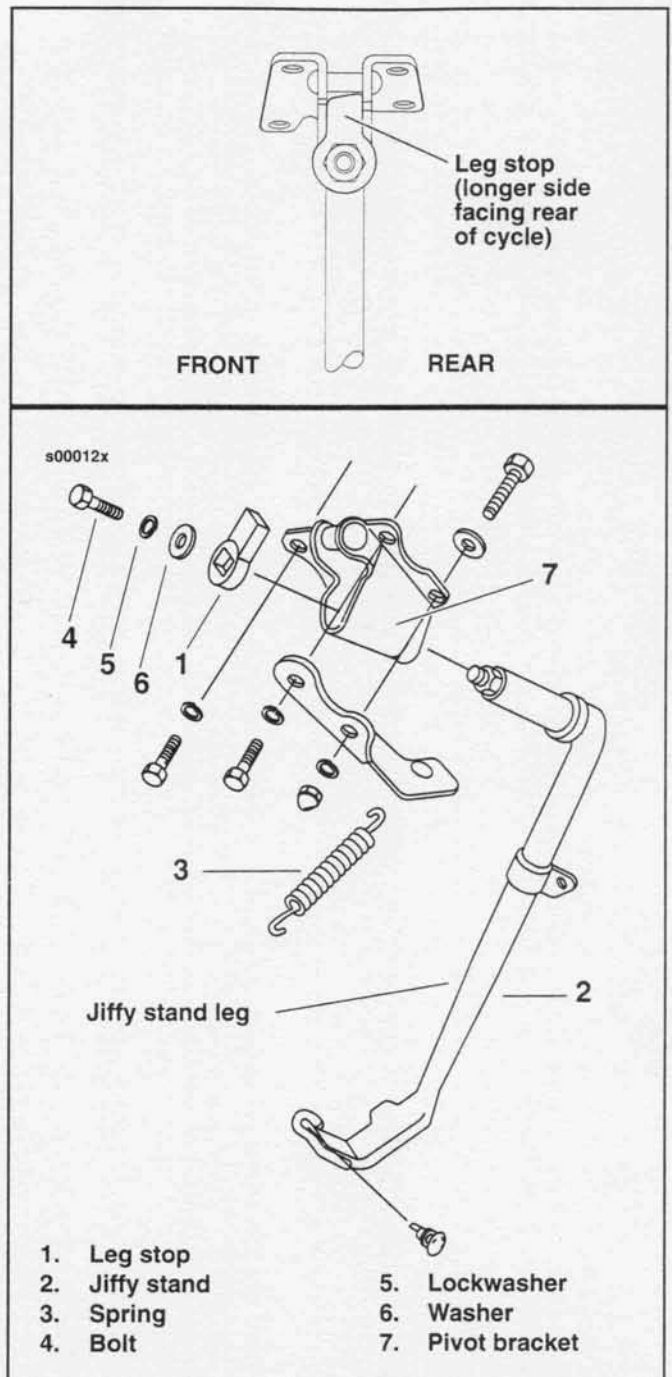

Figure 2-100. Jiffy Stand
2. See Figure 2-100. Inspect leg stop (1). If covered with dirt, wipe dirt off with a shop towel and spray stop and mating surface with Loctite aerosol anti-seize.
3. Move jiffy stand (2) leg up and down to "work" anti-seize into mating parts.